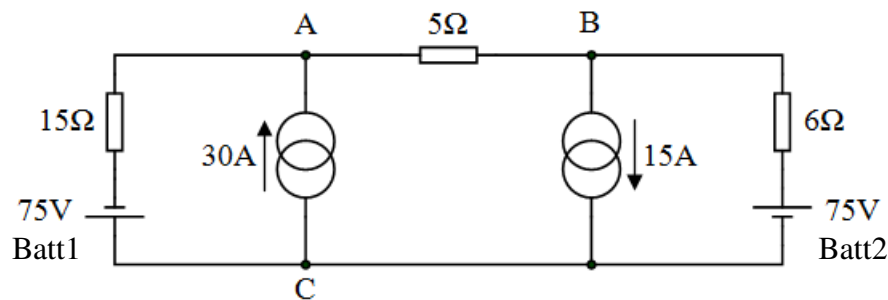
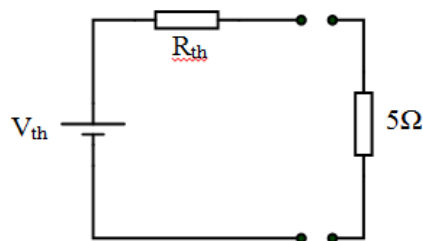

Figure 1.1
Figure 1.2
a. For the network shown in Figure 1.1, using **loop analysis**:
- (i) Calculate the voltage developed between points A and C, and thereby calculate the total power delivered by the 30A current source. (6)
- (ii) Is the battery 'Batt2' sinking or sourcing current? (2)
- b. (i) For the network shown in Figure 1.1, derive the equivalent **Thevenin** circuit of the network if the 5Ω resistor is considered to be the load as shown below in Figure 1.2.
- (ii) Calculate the power dissipated in the 5Ω resistor (4)
- c. A 15V battery with an internal impedance of 1Ω is now placed between points A and B of Figure 1.1 with the positive terminal connected to point B. Draw the new circuit diagram and using Norton and Thevenin transformations, calculate the new power dissipated in the 5Ω resistor. (2)
- (6)